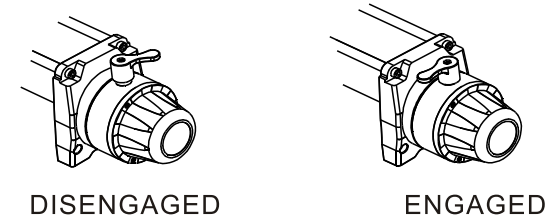

figure 9
- ◇ Turn the rotary clutch to the position of "DISENGAGED" and pull out several feet of wire rope from the wheel. Then turn clutch to the position of "ENGAGED". Plug in the controller, press the button to check the rotation direction of wire rope and recheck the connection of the wire (See figure 9).